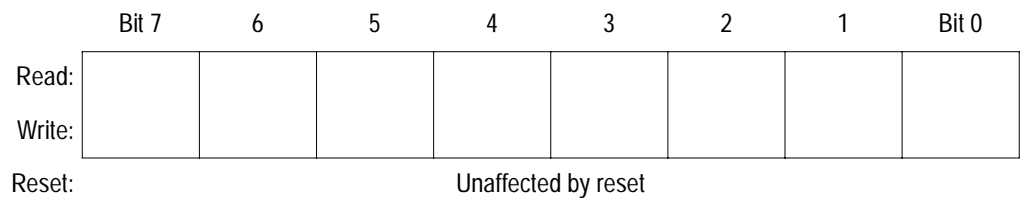

Figure 3-3. Index Register (X)
In the indexed addressing modes, the CPU uses the byte in the index register (X) shown in **Figure 3-3** to determine the conditional address of the operand. See **9.3.5 Indexed, No Offset**, **9.3.6 Indexed, 8-Bit Offset**, and **9.3.7 Indexed, 16-Bit Offset** for more information on indexed addressing.